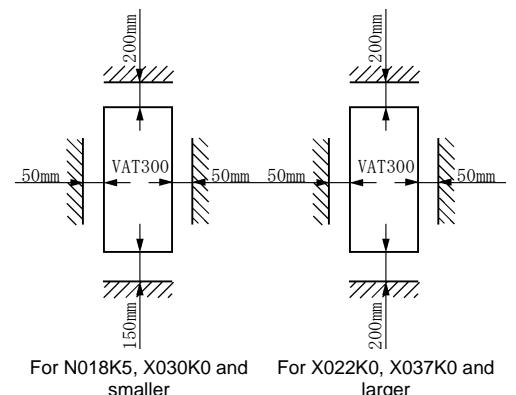

Fig. 2-1
(4) Ensure ventilation space around the inverter. (Refer to Fig. 2-1.)